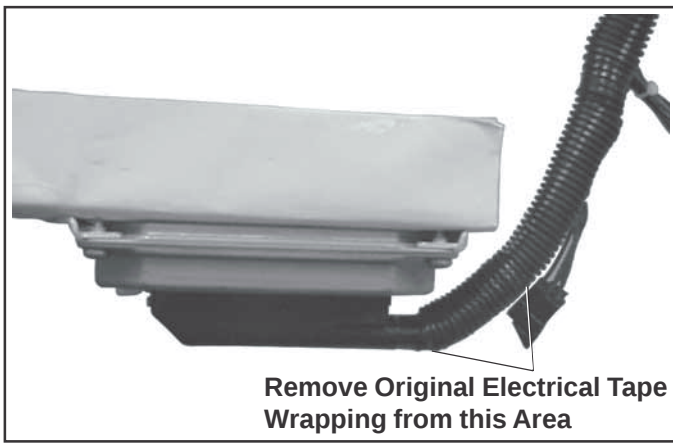
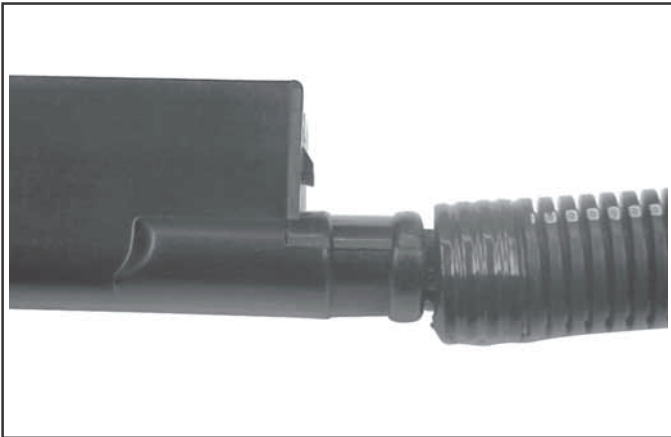

Figure 2.
Figure 3.
- a. Refer to Figure 2 and carefully remove the electrical tape that is wrapped around the end of the plug and extends about 2 1/2" onto the wire loom. After the old tape is removed, wrap a single band of new electrical tape around the end of the wire loom, see Figure 3, to prevent the slit from spreading open. **Do not** rewrap the end of the plug. Leave the wire loom detached from the plug.